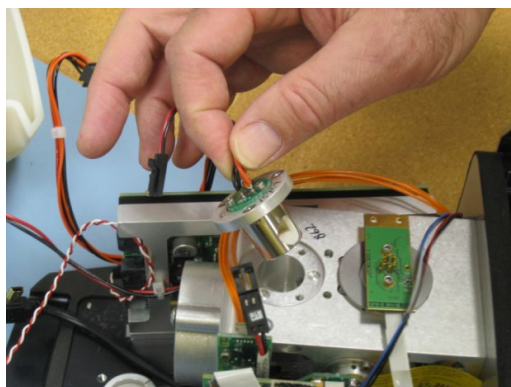

Figure 29. Removing the source assembly.
- 7 Remove the source assembly from the frame (see Figure 29). Set aside the source and replace it with the new source assembly.